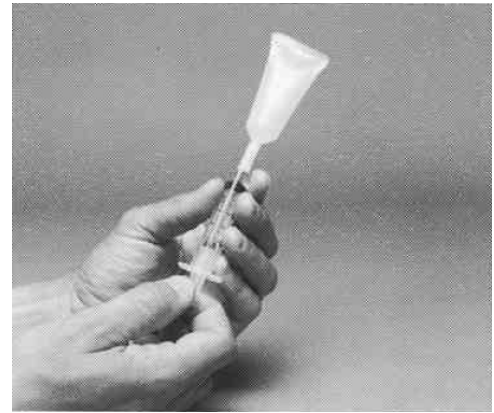

Figure X-4. Filling the syringe
Step 2. Open a disposable TSI alcohol bottle by twisting the top off. Place the short plastic tube stub onto the end of a syringe and then connect the other end of the tube stub to the neck of the alcohol bottle (fig. X-4).